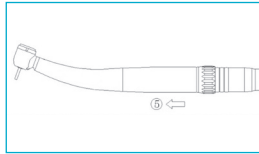

Fig. 6-6
Hold the LED coupling tightly; pull the medical device off while twisting slightly (Fig.6-6⑤).